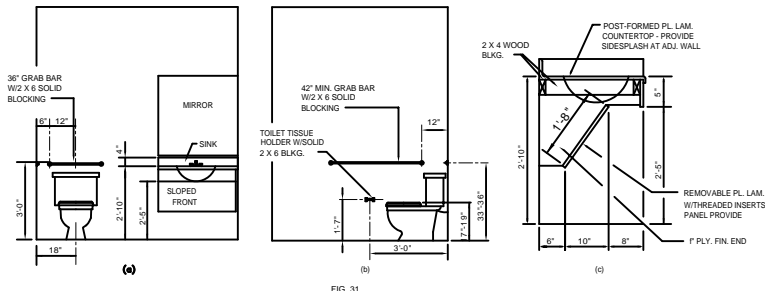

FIG. 31 LAVATORY & WATER CLOSET CLEARANCES
- 4.16.3 HEIGHT. THE HEIGHT OF WATER CLOSETS SHALL BE 17" TO 19" (430mm TO 485mm), MEASURED TO THE TOP OF THE TOILET SEAT. SEATS SHALL NOT BE SPRUNG TO RETURN TO A LIFTED POSITION (SEE FIG. 31).
- 4.16.4 GRAB BARS. GRAB BARS FOR WATER CLOSETS NOT LOCATED IN STALLS SHALL COMPLY WITH 4.26 AND FIG. 31. THE GRAB BAR BEHIND THE WATER CLOSET SHALL BE 36" (915mm) MINIMUM.
- 4.16.6 DISPENSERS. TOILET PAPER DISPENSERS SHALL BE INSTALLED WITHIN REACH, AS SHOWN IN FIG. 31. DISPENSERS THAT CONTROL, DELIVER, OR THAT DO NOT PERMIT CONTINUOUS PAPER FLOW, SHALL NOT BE USED.
- 4.17.6 GRAB BARS. GRAB BARS MAY BE MOUNTED WITH ANY DESIRED METHOD AS LONG AS THEY HAVE A GRIPPING SURFACE AT THE LOCATIONS SHOWN IN FIG. 31 AND DO NOT OBSTRUCT THE REQUIRED CLEAR FLOOR AREA. GRAB BARS SHALL COMPLY WITH 4.26.
- 4.19.2 HEIGHT & CLEARANCES. LAVATORIES SHALL BE MOUNTED WITH THE RIM OR COUNTER SURFACE NO HIGHER THAN 34" (865mm) ABOVE THE FINISH FLOOR. PROVIDE A CLEARANCE OF AT LEAST 27" (685mm) ABOVE THE FINISH FLOOR TO THE BOTTOM OF THE APRON (SEE FIG. 31).
- 4.19.6 MIRRORS. MIRRORS SHALL BE MOUNTED WITH THE BOTTOM EDGE OF THE REFLECTING SURFACE NO HIGHER THAN 40" (1015mm) ABOVE THE FINISH FLOOR (SEE FIG. 31).
- 4.24.2 HEIGHT. SINKS SHALL BE MOUNTED WITH THE COUNTER OR RIM NO HIGHER THAN 34" (865mm) FROM THE FINISH FLOOR (SEE FIG. 31).